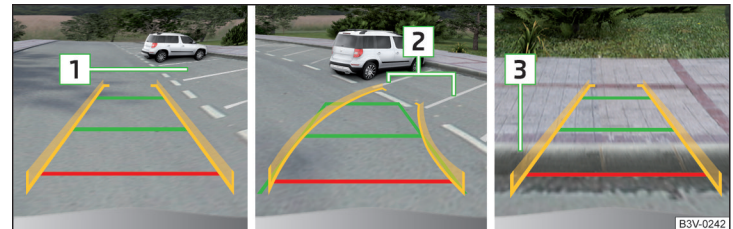

Fig. 178 Display
- At the selected parking space **1** » Fig. 178 slowly drive past and stop the vehicle.